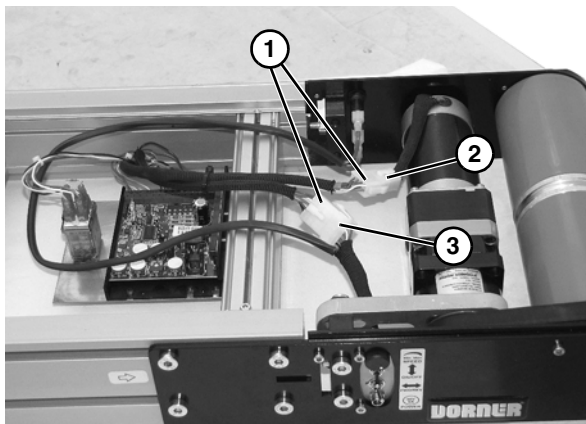

Figure 67
3. Disconnect two wiring harness connectors (Figure 67, item 1) from motor connector (Figure 67, item 2) and switch wiring connector (Figure 67, item 3).